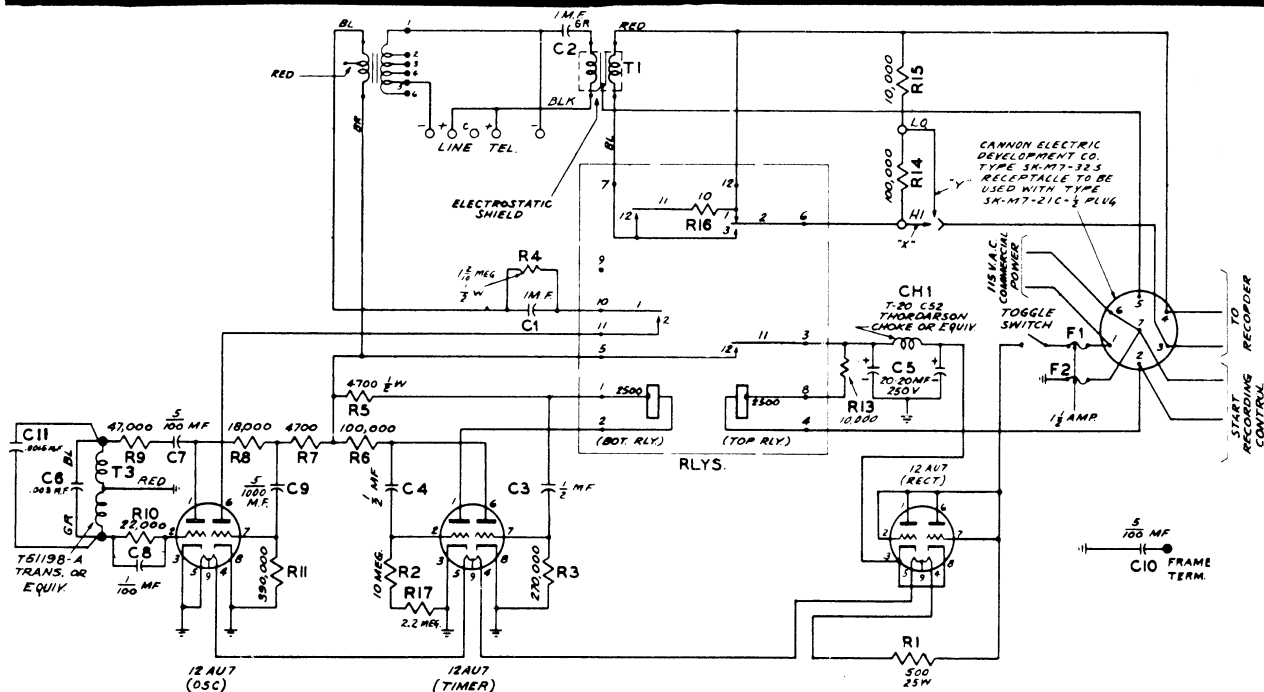

Fig. 4. Wiring Schematic of A.E. Co. Type 31 Recorder Connector
3.02 The recorder connector is set for "X" wiring at the factory for recorders having automatic volume control. See Table 1 to be certain correct wiring is used for the type recorder being used. See Fig. 4 for wiring schematic.